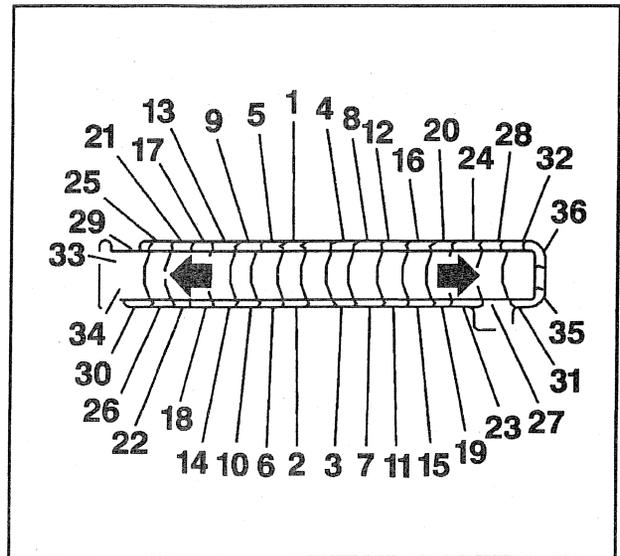

Figure 26—Clinching Sequence
10. Clamp the remaining clinch tabs around the header using the clinching tool or pliers following the clinching sequence in figure 26.